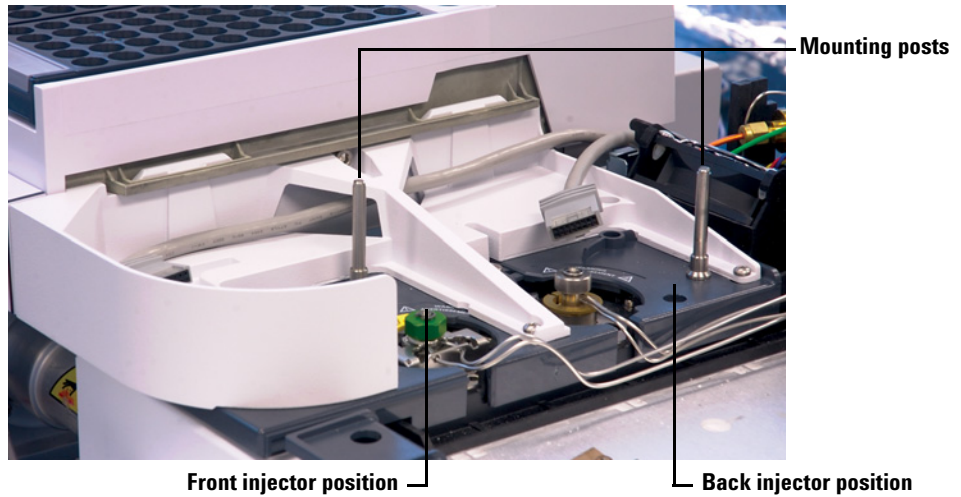

Figure 15 Installing the mounting post(s) on a 7890 Series GC
- **7890 Series GC, 7820A GC, and 7820 MSD.** Install into the inlet cover in the front or rear location, as desired. The post must be turned all the way down (**Figure 15**).